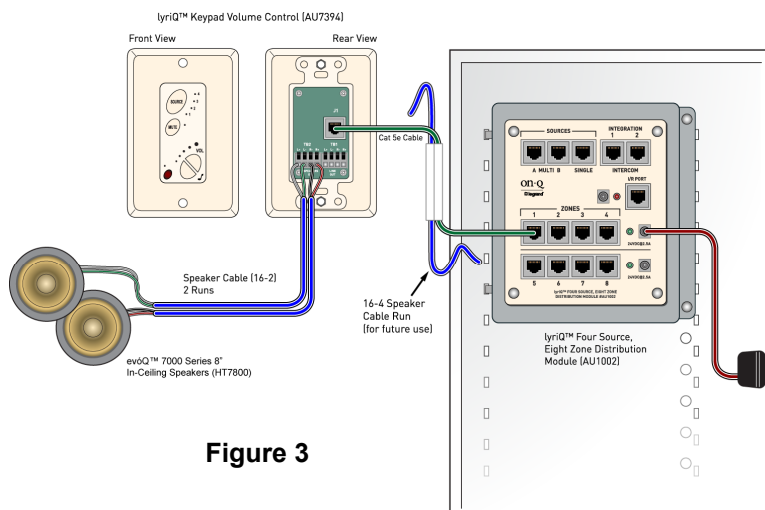

Figure 3
- 3) Connections in the enclosure (see **Figure 3**):